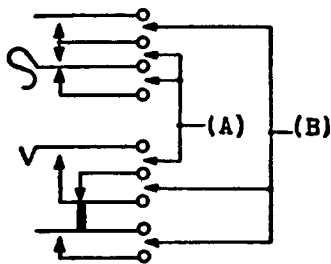

Fig. 6 — Illustrating Contact Separation
- (a) **Fig. 6(A)**: 0.014 inch (Readjust — 0.016 inch).
- (b) **Fig. 6(B)**: Contacts except those actuated by a plunger spring or by a spring actuated directly by a plunger spring by means of a stud — 0.010 inch (Readjust — 0.012 inch).